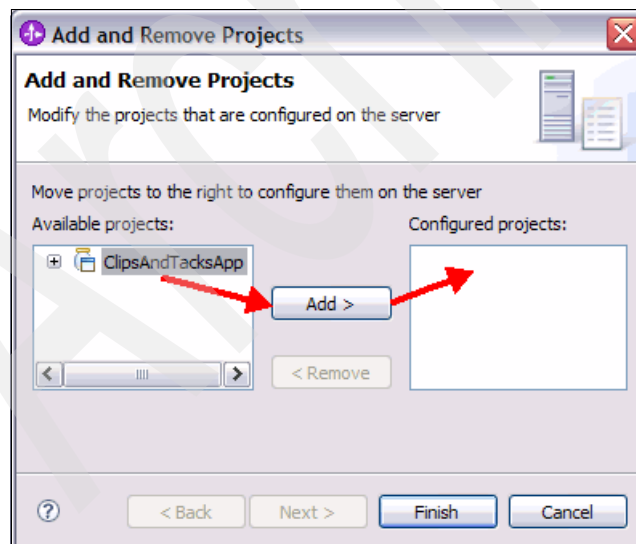

Figure 5-70 Adding the ClipsAndTacks project to WebSphere Process Server
3. In the Add and Remove Projects window (Figure 5-70), select the **ClipsAndTacksApp** project, click **Add**, and then click **Finish**.